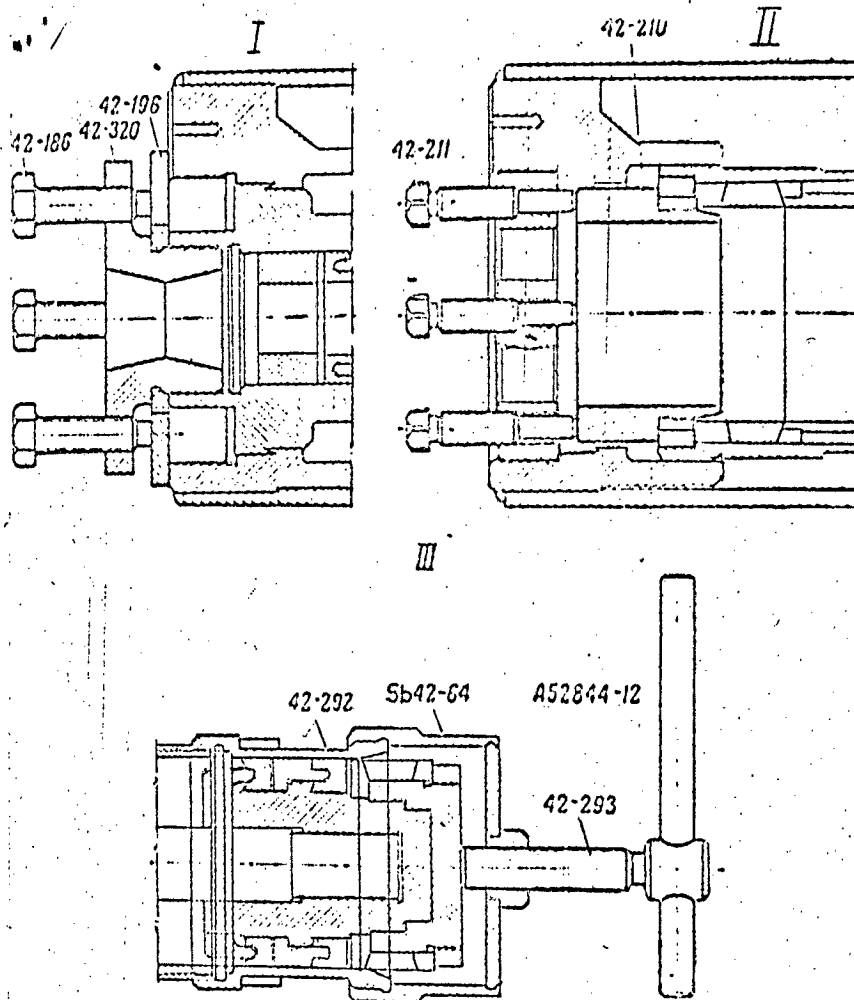

Fig. 35. Tools.
- on packing casing 17 place disc 42-196 of the tool Sb42-48 (Fig. 35) for disassembling the counterrecoil cylinder and screw-extractor ring 42-320 into packing casing 17;
- insert thrust ring 42-210 of tool Sb42-55 for disassembling the counterrecoil cylinder (Fig. 35) into working cylinder from the front end, screw in nut 21 (Fig. 28), install bolts 42-211 (Fig. 35) of tool Sb42-55 in nut 21 in place of the four screws 20, and, by screwing in bolts 42-211 with wrench Sb42-49, push out and extract working cylinder 3 (Fig. 28) with intermediate cylinder 4 from the counterrecoil cylinder;
- unscrew nut 21 and replace bolts 42-211 (Fig. 35) of tool Sb42-55 in it by screws 20 (Fig. 28).